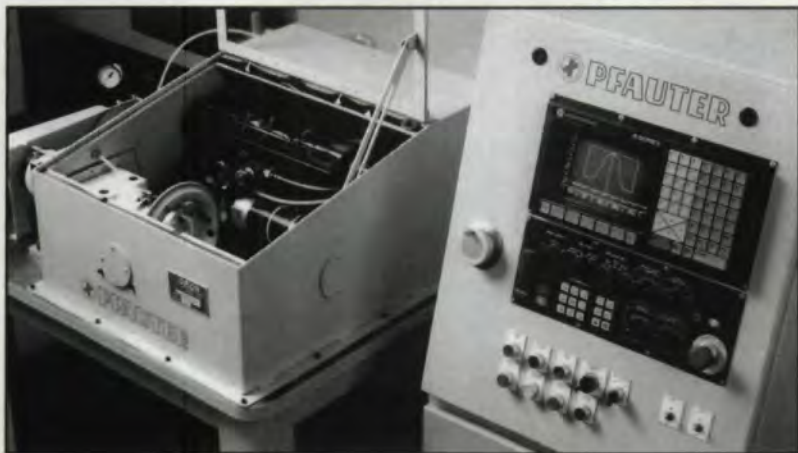

Fig. 9 — Orion 2-axis CNC dresser for dressing profile grinding wheels off the machine. Used commonly with dressable CBN media and SG media.
2. Stand-alone dressing units for dressing seeded gel (SG) wheels and CBN-dressable wheels off the machine (Fig. 9);